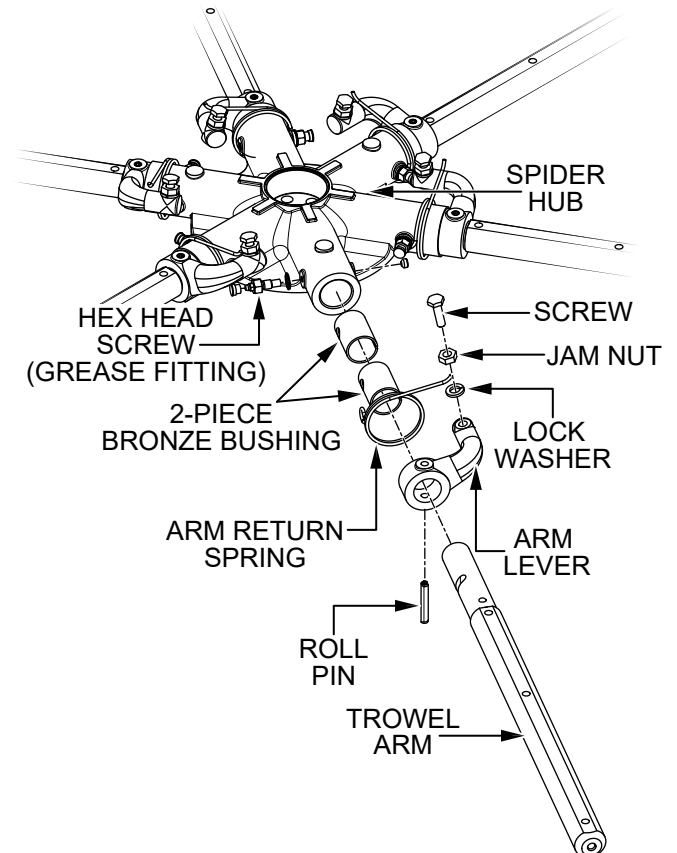

Figure 51. Trowel Arm Removal
2. Each **trowel arm** is held in place at the **spider hub** by a hex head screw (Zerk grease fitting). Remove the **hex head screw** (Figure 51) from the spider hub.
3. Remove the **trowel arm** (Figure 51) from the **spider hub**.